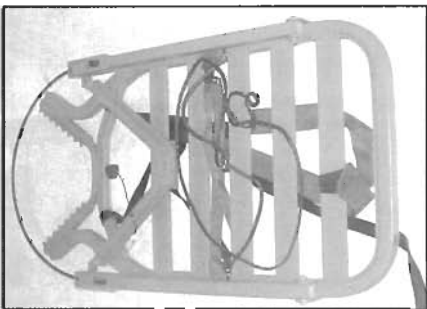

Fig. 26
A. To combine the Bullet or Broadhead Backpacker Seat and Bullet or Broadhead Backpacker Platform, place the Bullet or Broadhead Backpacker platform flat on the ground as shown in **Figure 26**.